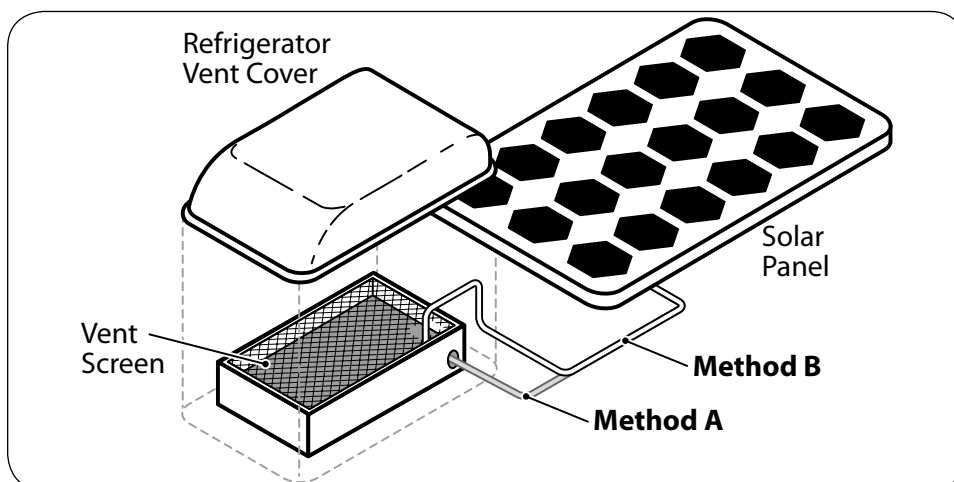

Fig. 8.6 PV Wire Entry Through RV Vent
5. The wire pair from the solar panel can be routed to the interior of the RV through the roof-top refrigerator vent. Find where the refrigerator vent is located on the roof of the RV. See Fig. 8.6.